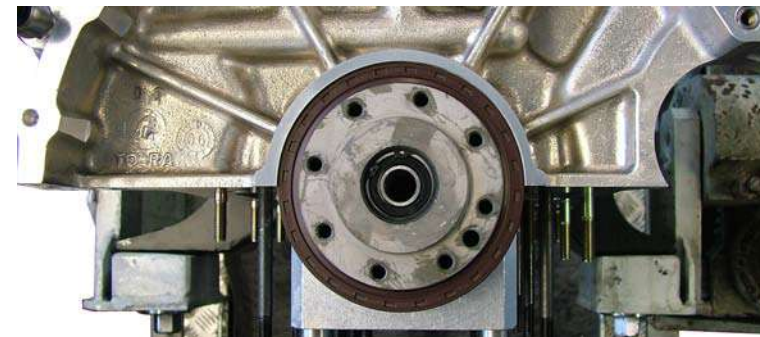

Fig.4
9. Remove the lock snap ring and the crankshaft bearing (**Fig.4**).